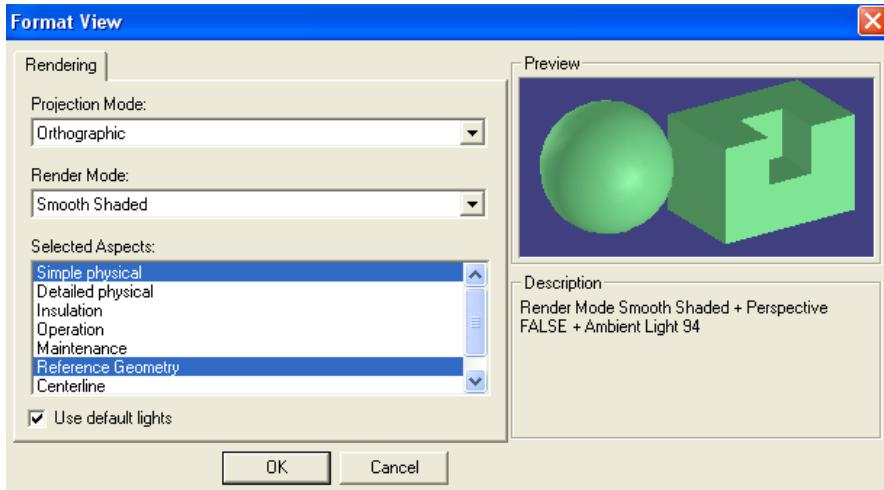

Figure 28: Format View Dialog
74. Turn the **Reference Geometry Aspect** on in the Format View dialog and click **OK**, as shown in Figure 28.